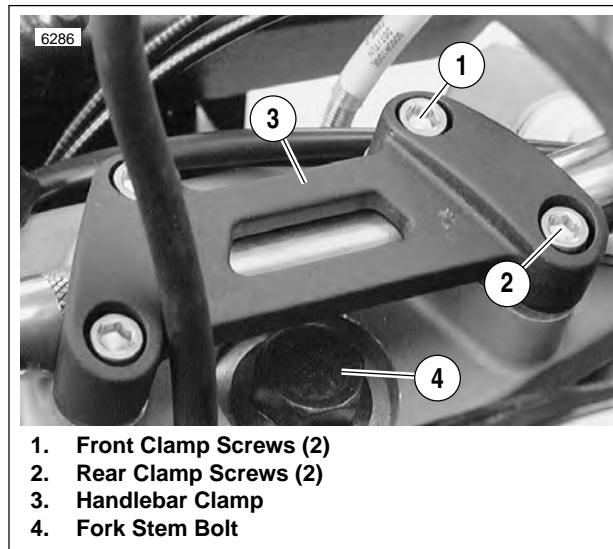

Figure 2-60. Loosening Handlebars
2. See Figure 2-60. Loosen handlebars.
- b. Remove both front clamp screws (1).
- c. Remove both rear clamp screws (2) and handlebar clamp (3).
4. Slowly loosen fork stem bolt (4) until forks drop 0.5 in. (12.7 mm) in triple clamps.
2. See Figure 2-60. Tighten fork stem bolt and triple clamp screws. Check bearing adjustment. See 2.17 FORK STEM AND BRACKET ASSEMBLY.